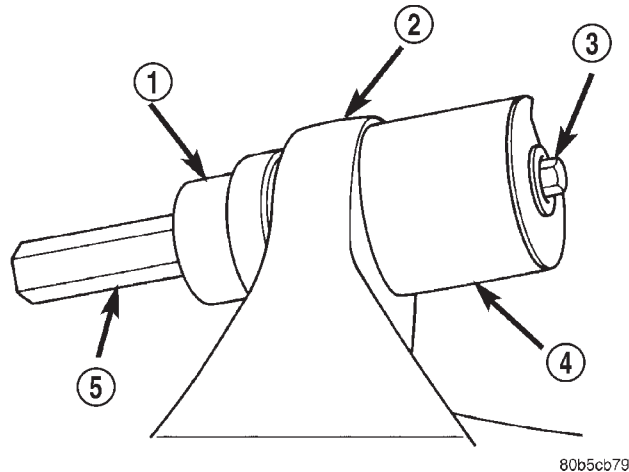

Fig. 10 Bushing Installation
(1) Place Receiver 7932-1 on the other side of the axle bracket.
(2) Position new bushing up to the axle bracket, and large end of Remover/Install 7932-2 against the bushing (Fig. 10).
(3) Install bolt 7604 through receiver, bushing and installer.
(4) Install Long Nut 7603 and tighten nut to draw the bushing into the axle bracket.